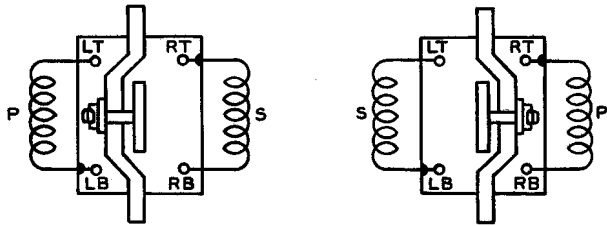

Fig. 50 — Winding Terminal Arrangement as Viewed From the Front (contact side) — Double-Wound 266-Type Relay
2.60 **Winding Terminal Numbering:** Since these relays have individual covers it is not possible to connect to the winding terminals from the front. As viewed from the front the winding terminals are designated as shown in Fig. 50. As viewed from the rear the winding terminals are designated by two letters and a number. The first letter of the designation is either L or R; the second letter either T or B. The letters and numerals have the following significance.